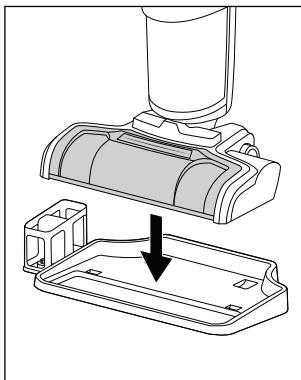

Fig. 31
- ◆ Place the switched-off appliance on the storage tray **4** of the parking and cleaning station (see fig. 31).